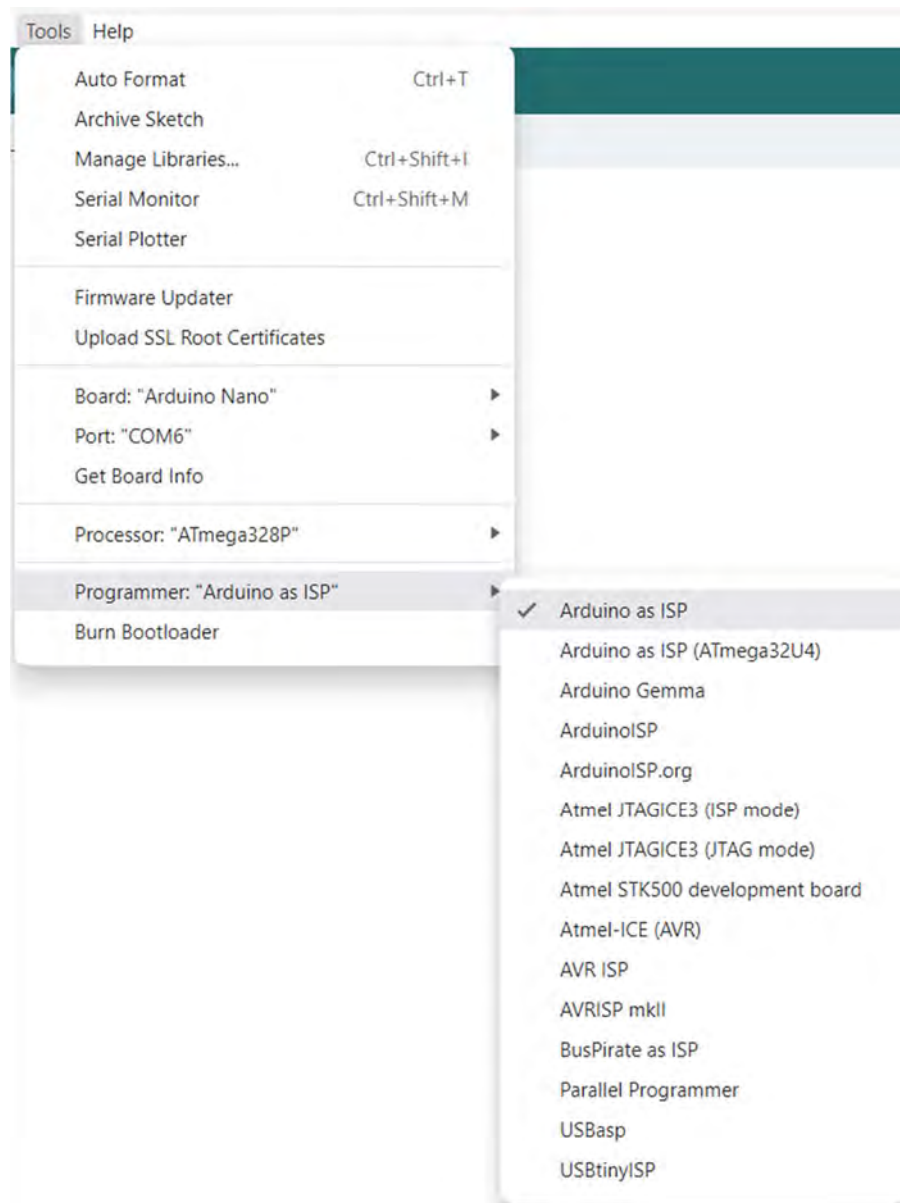

Figure 17: Programmer selection for the Nano Flip.
- **Programmer selection:** Under “Tools” and “Programmer:” select “Arduino as ISP”, as shown in Figure 17.